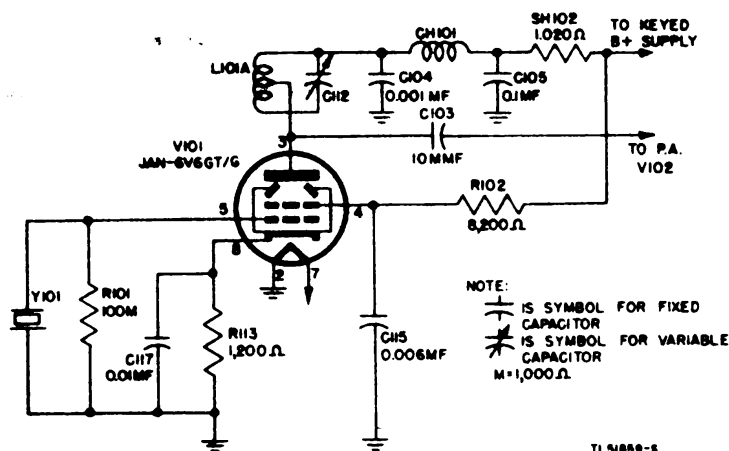

Figure 34. Master oscillator, l-f band, simplified diagram.
a. Low-frequency Band Operation (fig. 34).
(1) When the TRANSMIT BAND SWITCH is in the l-f position, one terminal of crystal Y101 is grounded and the low-potential side of plate coil L101A is bypassed to ground through capacitor C104. With L101A tuned slightly above the resonant frequency by C112, a high voltage at the crystal frequency is developed across the tuned plate circuits. A portion of this voltage is applied back to the grid through the grid-plate capacitance of the tube. This voltage is in the correct phase to sustain oscillations.
(2) It is necessary that the resonant frequency of the plate circuit be slightly higher than the crystal frequency to produce oscillations. By decreasing the value of C112, the resonant frequency of the plate circuit is increased, therefore, the impedance offered to the crystal-frequency voltage is reduced and oscillations become weaker. As the resonant frequency is further increased, oscillations will cease as there will be insufficient voltage applied back to the grid. The l-f oscillator circuit is therefore suitable only for operation at the fundamental frequency of the crystal.
(3) Cathode resistor R113 develops sufficient bias to limit the plate current flow, and thereby protects the tube if oscillations cease. Resistor R113 is bypassed for radio frequency by capacitor C117. Resistor R101, across the crystal, serves as a